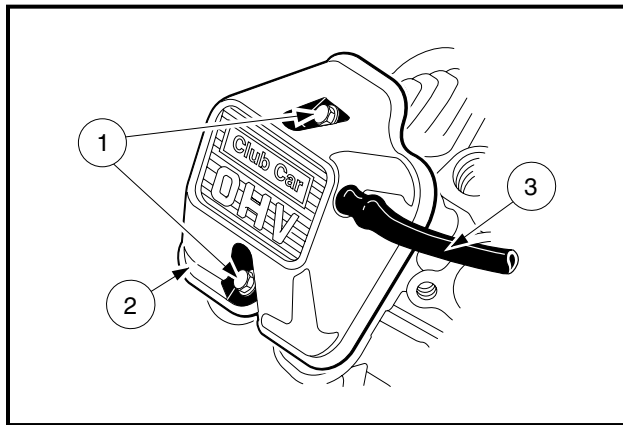

Figure 3-5 Remove Rocker Cover and Breather Tube
1. Remove the two bolts (1) and remove the rocker cover (2) along with the breather tube (3) (**Figure 3-5, Page 3-7**).